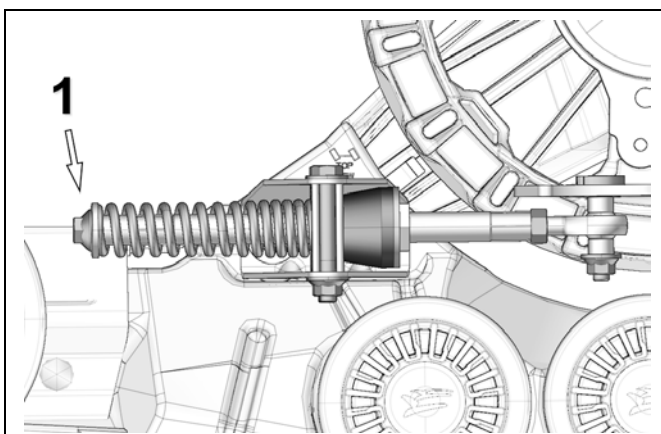

Figure 9
- Verify that spring assembly bolt is tightened to the recommended torque [40 N•m] and that stabilizing arm components are in the correct order (1). See Figure 9.